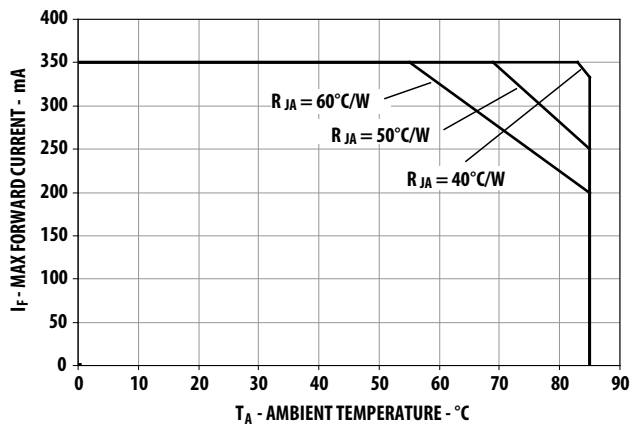

Figure 5. Maximum forward current vs. ambient temperature for AllnGaP
- DC forward current – derate linearly based on Figure 5 for AlInGaP & Figure 11 for InGaN.